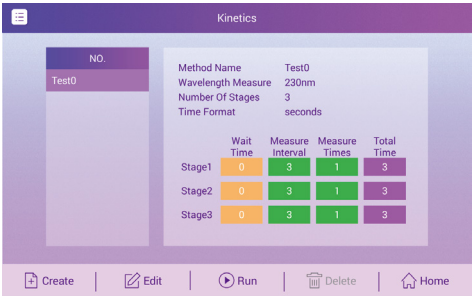

Figure 39
- (1) Select the "Other" option on the home page and click "Kinetics".
- (2) Display the "Kinetics" screen as shown in Figure 39. If one or more kinetics methods are available for the currently selected data storage location, they will be listed in the box on the left and a description of the selected method is displayed in the box on the right.